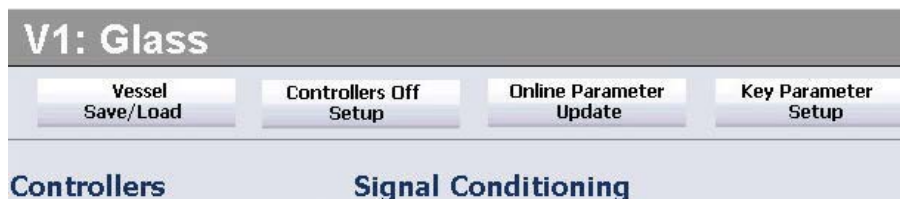

Figure 4.75. Foam and level detail.
1. On the Configuration screen, click **Key Parameter Setup** (Figure 4.75) to select parameters to be displayed using the drop-down menus.